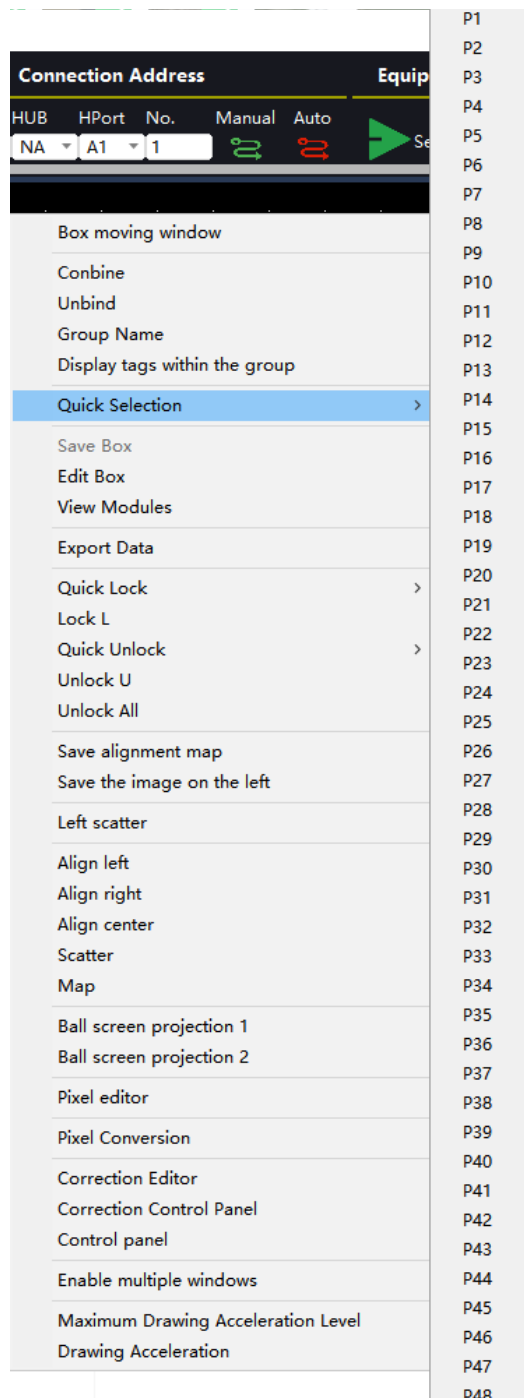

Figure 4-3-18 Quick Lock
- **Quick Lock:** Right-click and choose Quick Lock, then select an Ethernet-output number. AutoLED locks every cabinet assigned to that output, as shown in Figure 4-3-18.